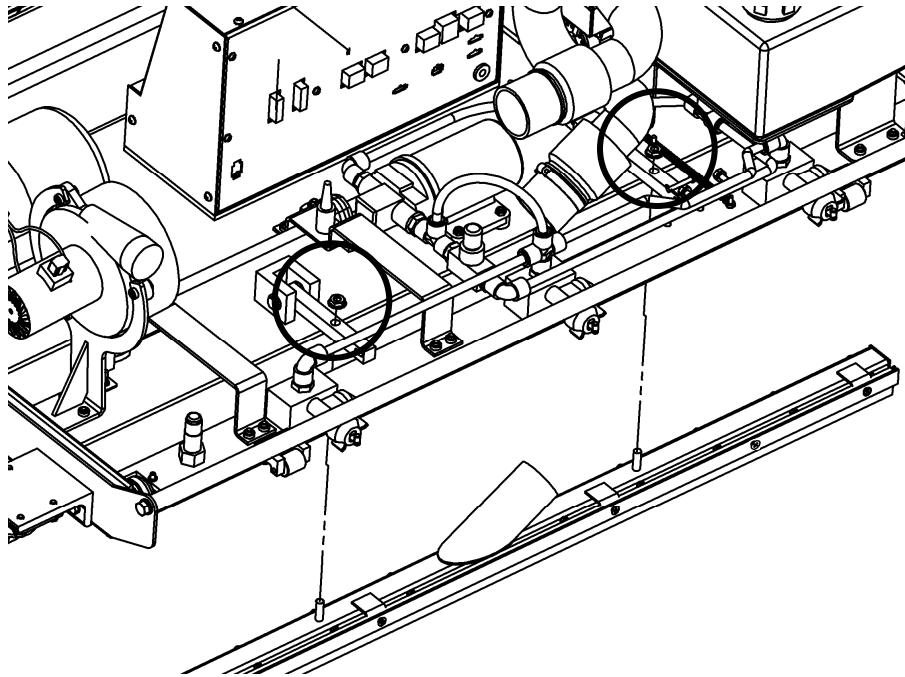

Figure 3-16
3. Remove the two 5/16 nuts to release the Vac Head from the machine, as shown in Figure 3-16, and remove the Vac Head from the **bottom** of the machine.